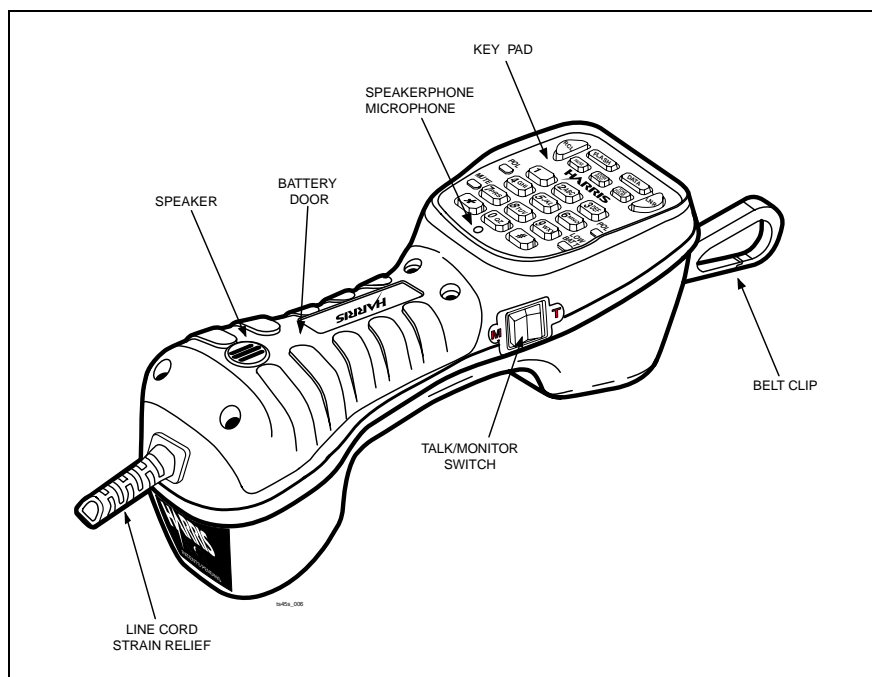

Figure 1. Physical Characteristics
The housing for the TS45S Test Set is made of high-impact plastic (see Figure 1). The test set is designed to provide rugged service and withstand the rough handling and shocks normally associated with field use. The housing is designed to permit operation of the test set in bad weather (e.g., in heavy rain and dust storms).
The belt clip (see Figure 1) is located at the keypad end of the housing and is equipped with a spring-loaded clip that assures a secure connection to belt loops and D-rings. The belt clip allows the test set to be hung with the keypad and speakerphone facing the user for convenient access. The belt clip may be replaced in the field. See Maintenance, Replacing the Belt Clip.
The test set is equipped with a field replaceable line cord. The line cord is attached to the test set through a rubber strain relief at the transmitter end of the test set (see Figure 1). See Power and Connections, Line Cords. Several different configurations of line cords are available.
The test set provides a battery compartment (see Figure 1) which makes battery replacement a simple procedure. See Maintenance, Replacing the Battery.
The keypad (see Figure 1) has 19 keys that are recessed into the receiver end of the housing. The recessed bezel provides physical protection for the keypad and helps prevent accidental key press.
The Speakerphone speaker and microphone (see Figure 1) are located on the keypad side of the test set.
The TALK/MONITOR switch is a rocker switch located on the side of the test set (see Figure 1). Switching the TALK/MONITOR switch to the TALK (T) position puts the test set into Talk mode. Switching the TALK/MONITOR switch to the MONITOR (M) position puts the test set into Monitor mode.